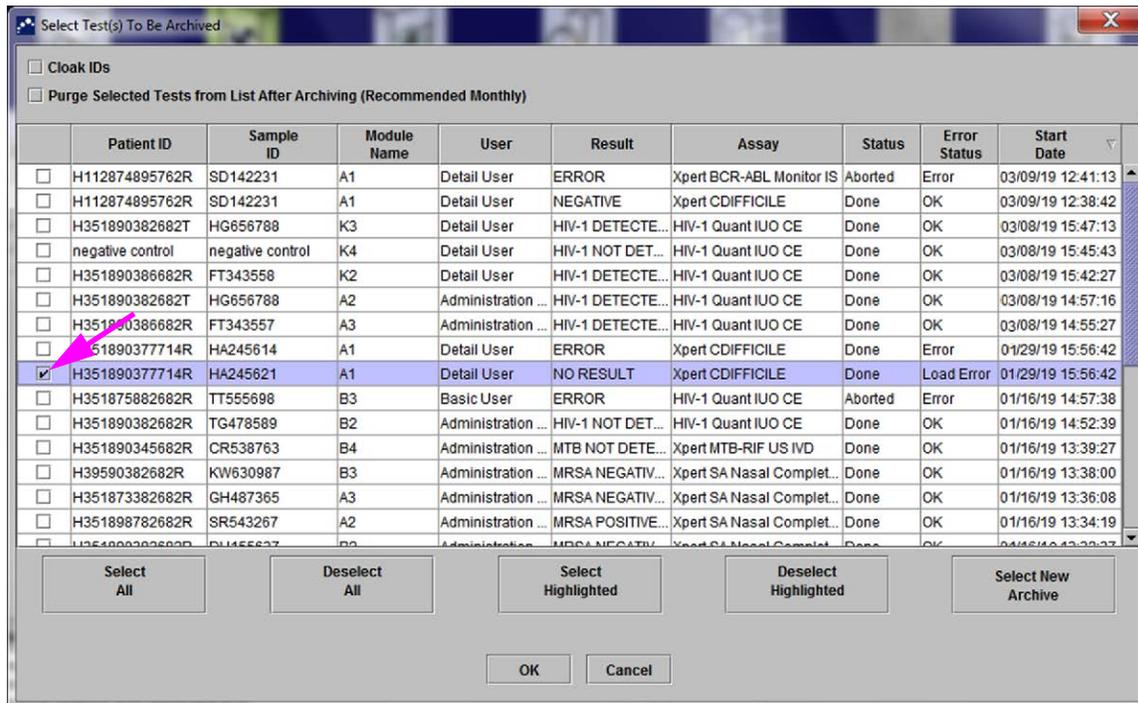

Figure 5-70. Select Test(s) To Be Archived Dialog Box
1. In the GeneXpert Dx System window, on the **Data Management** menu, click **Archive Test**. The Select Test(s) To Be Archived dialog box appears. See Figure 5-70.
2. Select the test(s) you want to archive. Click the check box that is adjacent to each test you want to archive. See Figure 5-70. You can select the individual tests one-by-one, or select a large number of tests by clicking one of the following buttons at the bottom of the Select Tests To Be Archived screen:
When the **Cloak IDs** check box, located in the top left area of the Select Test(s) To Be Archived dialog box, (see Figure 5-70) is checked, all information about the sample ID and patient ID is cloaked.